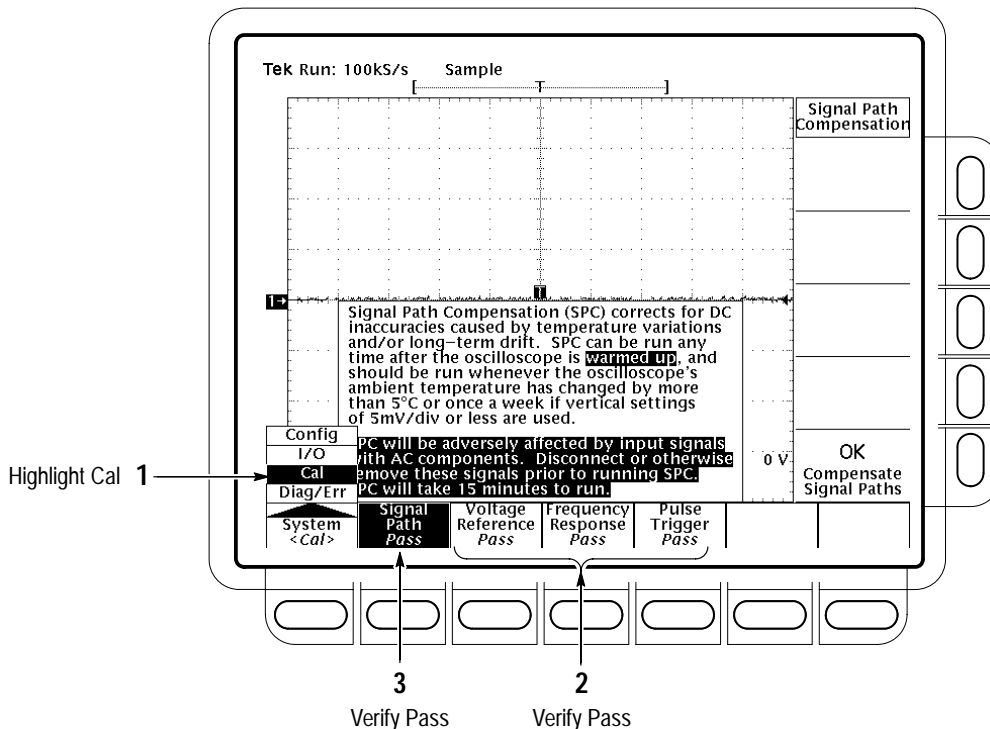

Figure 1–2: Verifying adjustments and signal-path compensation
- Highlight **Cal** in the pop-up menu by repeatedly pressing the main-menu button **System**. See Figure 1–2.
- Verify that the word **Pass** appears in the main menu under the following menu labels: **Voltage Reference**, **Frequency Response**, and **Pulse Trigger**. See Figure 1–2.
- h. *Confirm signal-path compensation returns passed status:* Verify that the word **Pass** appears under **Signal Path** in the main menu. See Figure 1–2.